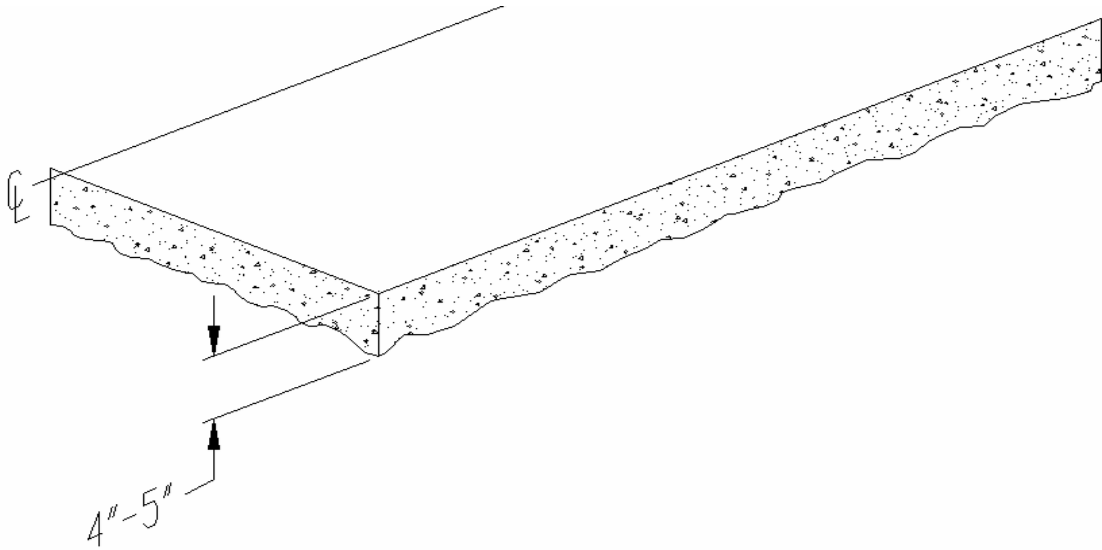

Figure 1
2. Mark a center line in the required location for reference in the layout of the anchor stud holes. See figure 1.